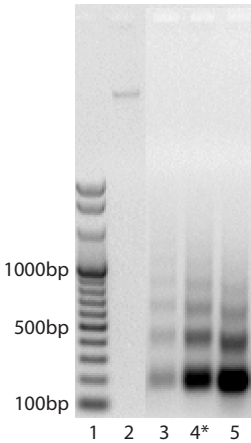

Figure 5: Gel analysis of enzymatic shearing (ChIP-IT Express Enzymatic)
7. Optimal enzymatic shearing should result in a 200-1500 bp banded pattern similar to that shown in lane 4 of Figure 5 below.